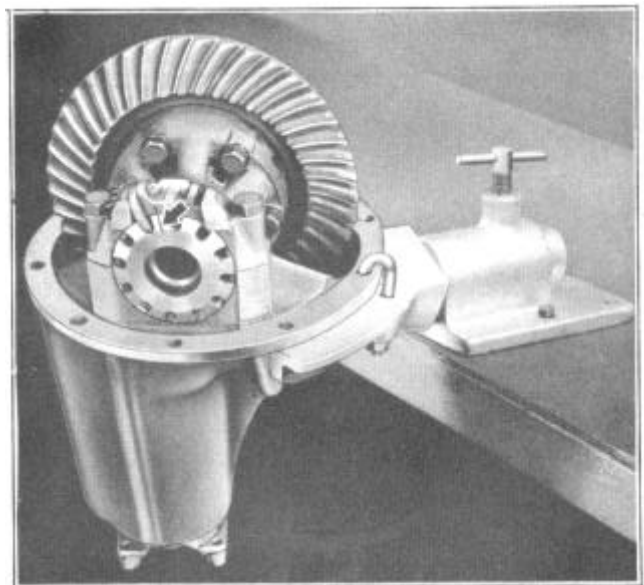

FIGURE 13
2. Remove nuts and lockwashers attaching differential carrier to axle housing, lift out differentail gear carrier assembly and place in holding fixture J-945 as shown in Figure 13.
NOTE: In order to save time, it is suggested that the bearing adjusting nuts be marked before removal (see arrow, Figure 13) so that they may be reassembled with approximately the same gear adjustment.